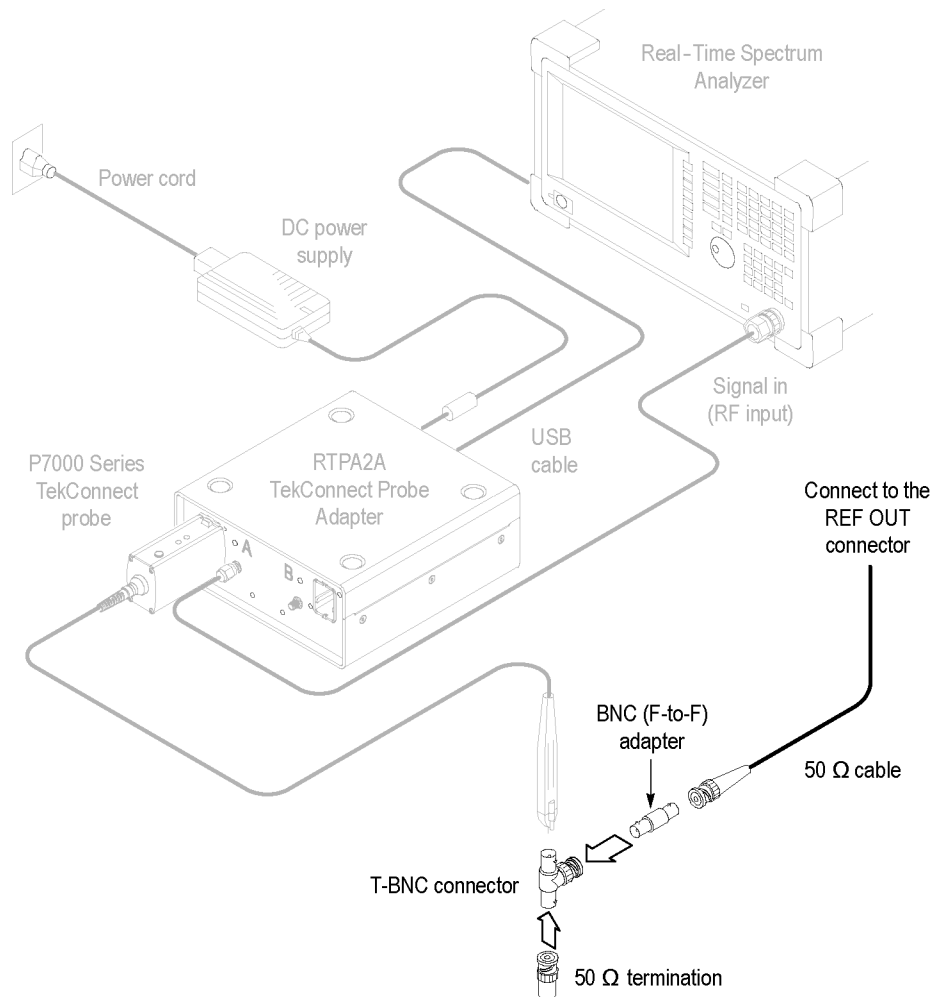

Figure 7: Equipment setup with Real-Time Spectrum Analyzer
- b. Attach the other end of a 50 Ω cable to a BNC (F-to-F) barrel connector. (See Figure 7.)